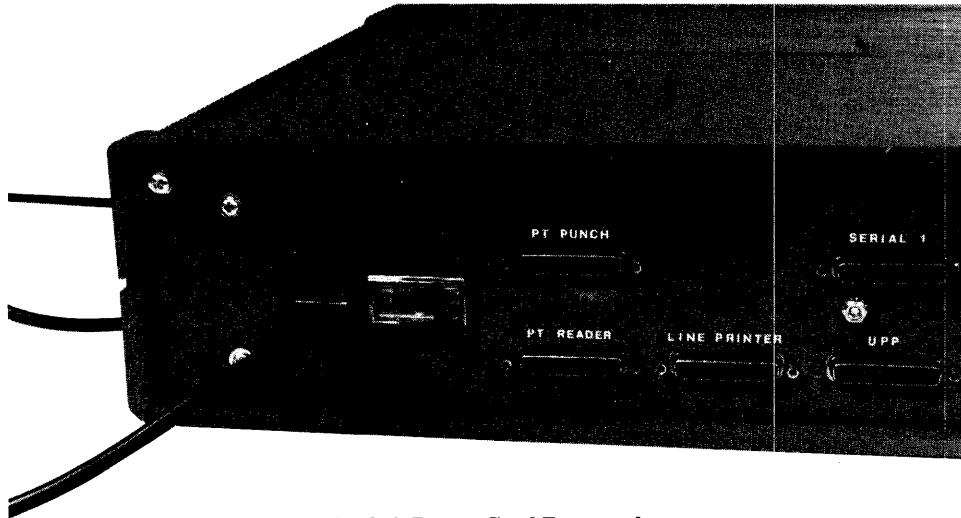

Fig. 2-4 Power Cord Receptacle
3. Slide the plastic shield to the right and plug the main power cord into the socket as shown in Figure 2-4.